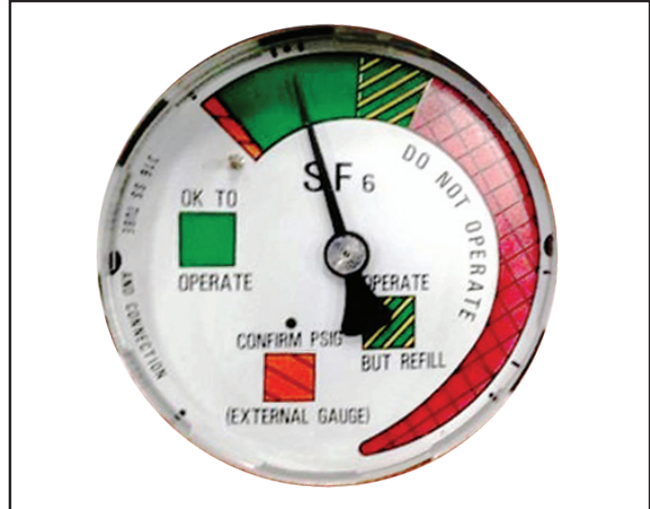

Figure 12. The SF6-gas pressure gauge.
**STEP 9.** Make sure the SF6-gas pressure gauge is in the green zone (or the green and yellow striped zone) by lifting the viewing window cover under Way 1. See Figure 12.